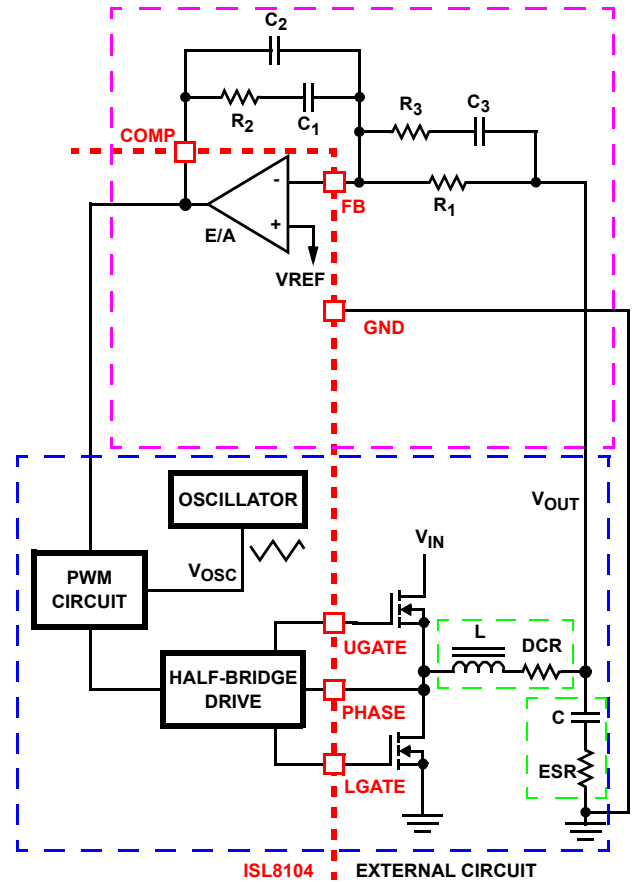

FIGURE 7. VOLTAGE-MODE BUCK CONVERTER COMPENSATION DESIGN
Figure 7 highlights the voltage-mode control loop for a synchronous-rectified buck converter. The output voltage is regulated to the reference voltage level. The error amplifier output is compared with the oscillator triangle wave to provide a pulse-width modulated wave with an amplitude of V_{IN} at the PHASE node. The PWM wave is smoothed by the output filter. The output filter capacitor bank's equivalent series resistance is represented by the series resistor ESR.
1. Select a value for R_1 (1kΩ to 10kΩ, typically). Calculate value for R_2 for desired converter bandwidth (F_0). If setting the output voltage to be equal to the reference set voltage as shown in Figure 7, the design procedure can be followed as presented. As the ISL8104 supports 100%